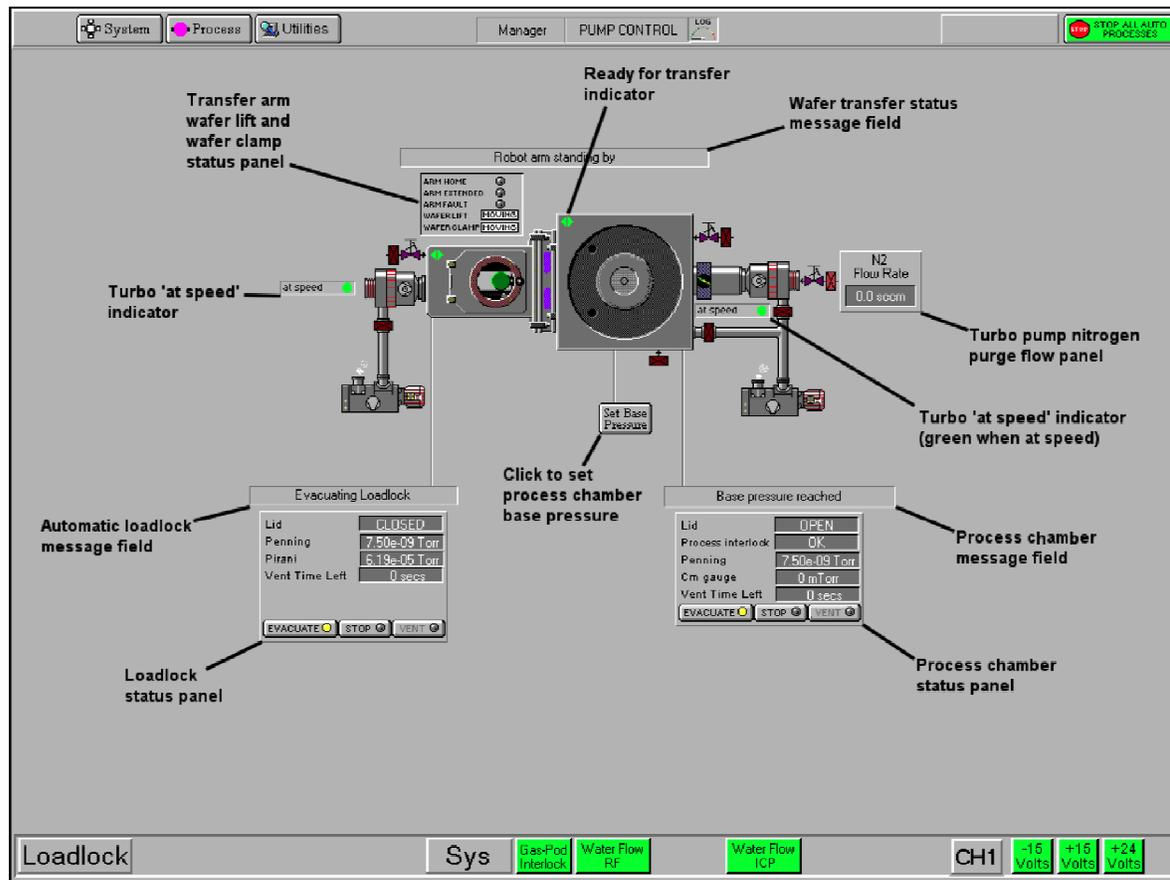

Fig.4. Pump Control page
2. Switch current page to “Pump Control” by selecting menu item “System->Pumping”. The “Pump Control” page is shown in Fig. 4.
- ii. As shown in Fig. 4, in the “Recipes” page, there are two white list boxes. The right one is the Step Library list, which is to store “step” templates. A “step” refers to a step of certain time duration when the set points for all the recipe parameters (such as power, pressure, gas flows, temperature, etc.) are fixed. The popular step templates are stored in this list box and can be pulled and dropped into the recipe box at left to save editing time. A recipe is composed of multiple steps. Typically one or several etch steps sandwiched by two “Pump to pressure” steps. The “Pump to pressure” only pumps down the chamber. All the parameters are set to zero except the step time and the temperature.